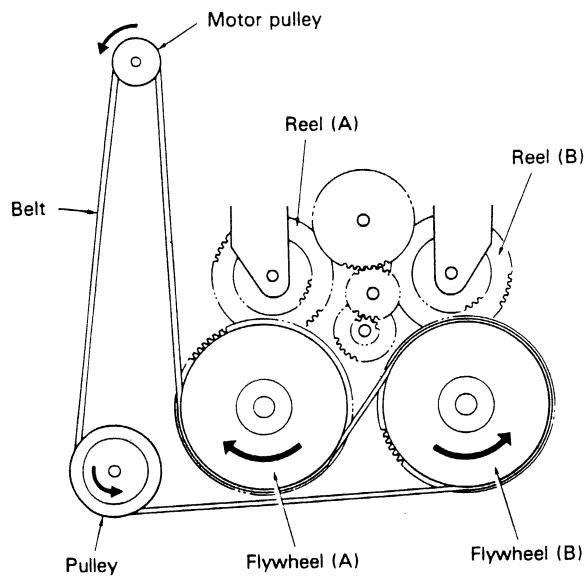

Fig. 20
- Upon loading the cassette, the tape power switch is moved to the "on" position and the motor is activated, causing movement in the directions indicated by the arrows in Figure 20. Flywheel (A) moves in the FWD direction while flywheel (B) moves in the REV direction.